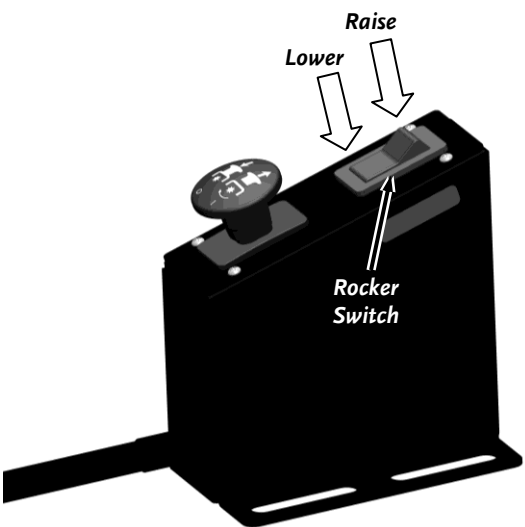
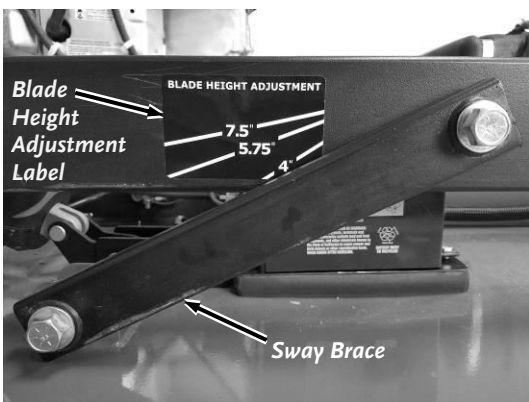

Figure 25
Figure 26
1. To lower the cutting Height of the Mower, press "Lower" on the Rocker Switch (Figure 25) until the Sway Brace is aligned with the desired cutting height lines on the Height Adjust label (Figure 26).